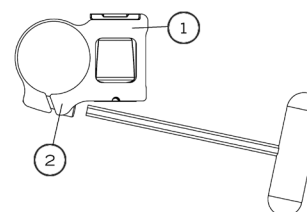

Fig. 19
- Install armrest receiver (1) (Fig. 19) on the upper tube of the frame at a distance of 160mm (6 1/4") from the rear tube of the frame.
- Slightly tighten screws (2) to allow the clamp to rotate.
- Insert armrest or sideguard into receiver (1).
- Rotate receiver (1) until the sideguard is perpendicular to the seat.
- Tighten screws (2) firmly.